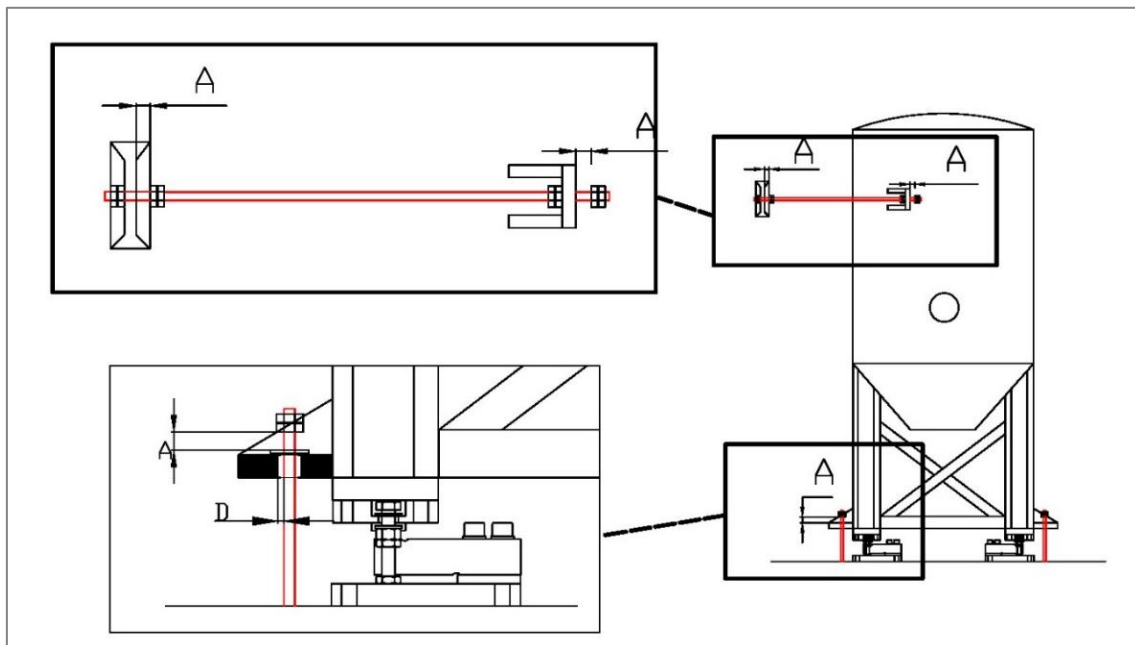

Fig. 4-a: Vertical and horizontal anchor system
Fig. 4-a shows examples of vertical anchors or lift-off prevention systems, using restraint rods to limit tank's movement but allowing some freedom for the proper weighing. Rods must be left with a clearance (A) to permit a minimum vertical or horizontal movement depending on the case, but not greater than 2mm. We must also consider making a drill with a significant larger diameter than the lift-off prevention bar (approx. +20%) for letting a gap D, to avoid frictions and mechanical constraints and having a good weighing system.